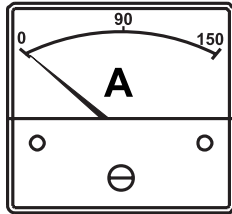

Figure 50. Ammeter (No Load)
8. The **AC ammeter** (Figure 50) will indicate **zero amps** with no load applied. When a load is applied, the ammeter will indicate the amount of current that the load is drawing from the generator.